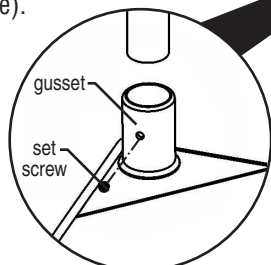

figure 1a
- Using allen wrench, secure legs into gussets (see *figure 1a*)—1 set screw per gusset. Secure crossbrace assembly onto legs (6" min. from bottom)—1 set screw per casting.